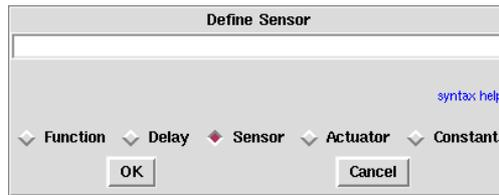

Figure 1.2: Define Sensor
- from the algorithm window, click on the + green button. It opens a dialog window, check **Sensor** (cf. figure 1.2). Type the sensor name and optionally a list of parameters for the sensor. For example type input, then